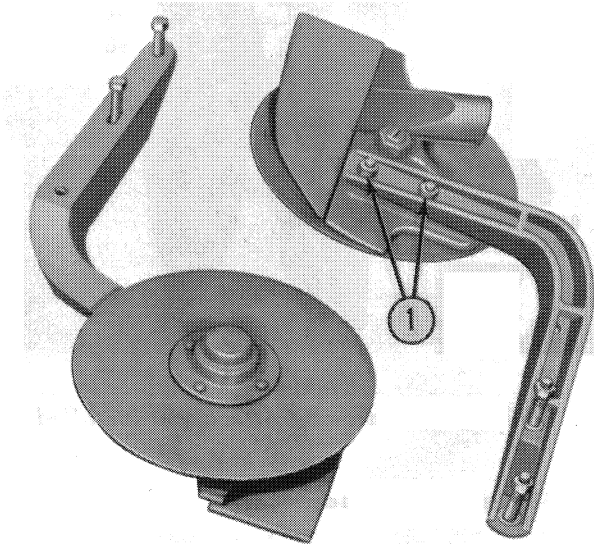

Figure 22
Shipping Information: The 12-176 Flatland Disc Openers (one required per two-row unit) are shipped as shown in Figure 22. The pair of openers make up Bundle No. 12-176. These disc openers are designed for use with the 12-202 Fertilizer Attachment. One disc is attached to each side of the basic two-row planter. Fertilizer is placed two inches or more to the side, and from 1/2" to 2" below the seed, as desired. Openers are adjusted for depth by loosening the bolts (1), Figure 22, and raising or lowering the disc assembly as desired. Distance from the seed is adjusted by adding or removing the 1/4" spacers between the runner support and the disc opener support.